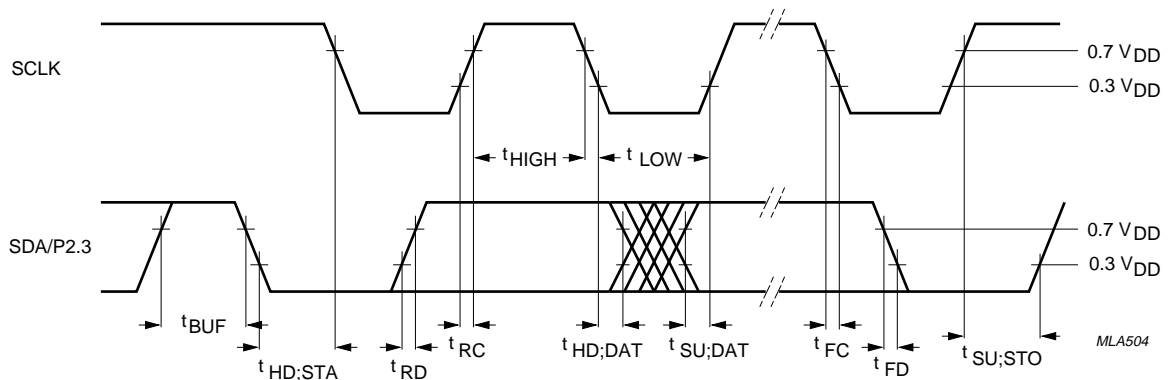
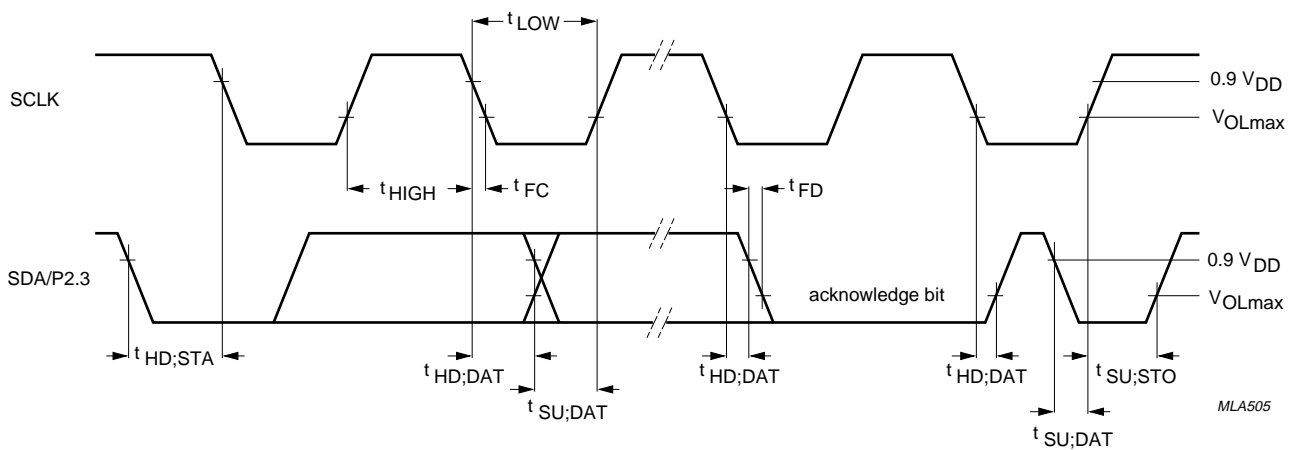

Fig.14 Slave SCLK and receiver SDA/P2.3 timing (SCLK and SDA/P2.3 are inputs).
Fig.15 Master SCLK and transmitter SDA/P2.3 timing (SCLK and SDA/P2.3 are outputs).
**Table 4** I2C-bus timing (see Figs 14 and 15)
| SYMBOL       | PARAMETER                  | INPUT(see Fig.14)      | OUTPUT(see Fig.15; note 1)              |